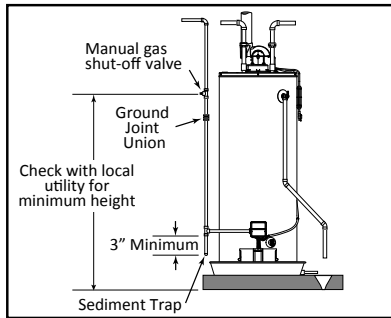

Figure 11 - Gas Piping
2. Install a Sediment Trap as shown in the Gas Piping figure (Figure 11). The Sediment Trap must be no less than three inches long for the accumulation of dirt, foreign material, and water droplets.